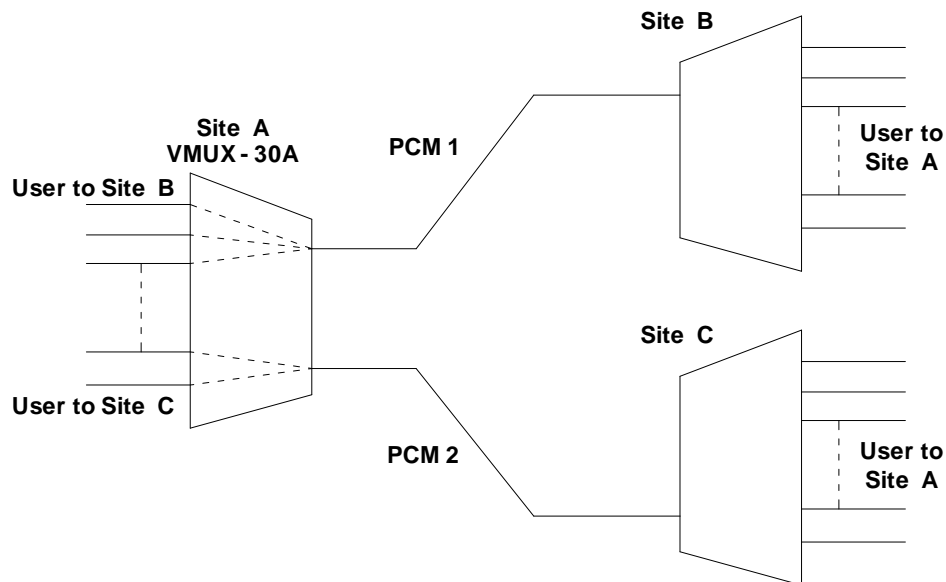

Fig.1.5 Drop-insert operation
3. Drop and insert operation: It supports direct bypassing of selected time slots from link to link, by virtue of which the V MUX can be used in drop/insert applications. This does not in any way effect the capabilities of interface cards. It is possible to use the same time slot independently on both the links. The bypassed time slots and their corresponding signaling information are switched digitally in to the second link and vice versa. Please refer fig. 1.5 showing drop-insert operation